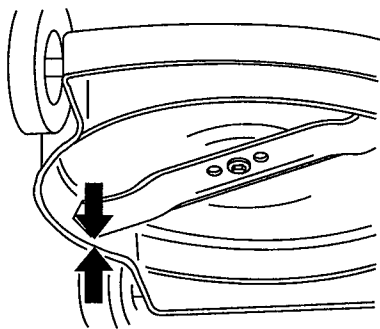

Figure 25
2. Measure the distance from the bottom edge of the mower housing to the blade tip (Fig. 25). Rotate the blade 180° and measure to other blade tip.